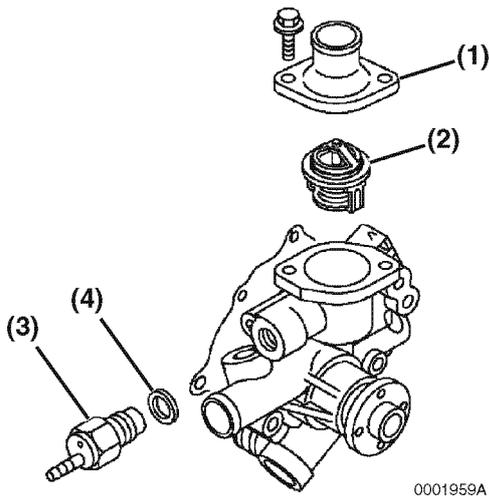

Figure 8-5
7. Remove the thermostat cover (**Figure 8-5, (1)**).
- Remove the thermostat (Figure 8-5, (2)). Remove the temperature switch (Figure 8-5, (3)) and gasket (Figure 8-5, (4)). Discard the gasket.